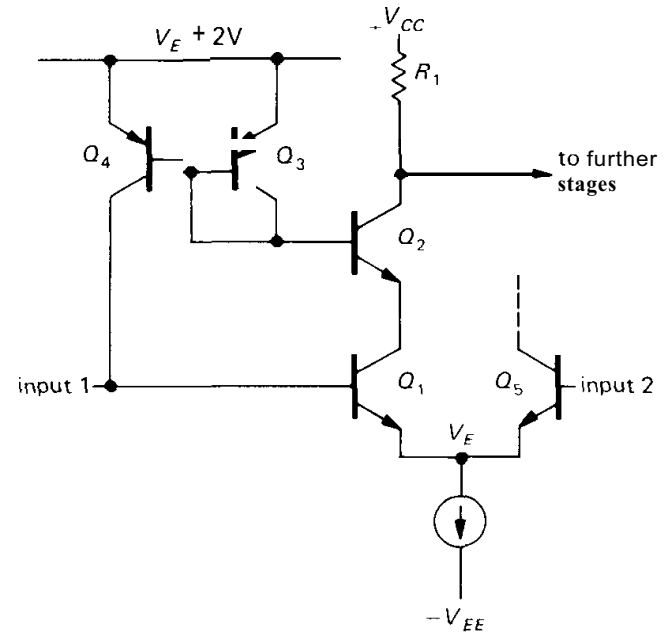

Figure 2.83. Base-current cancellation scheme, commonly used in high-quality operational amplifiers.
(8) Several commercially available precision op-amps (e.g., the venerable OP-07 and the recent LT1012) use the circuit in Figure 2.83 to cancel input bias current (only half of the symmetrical-input